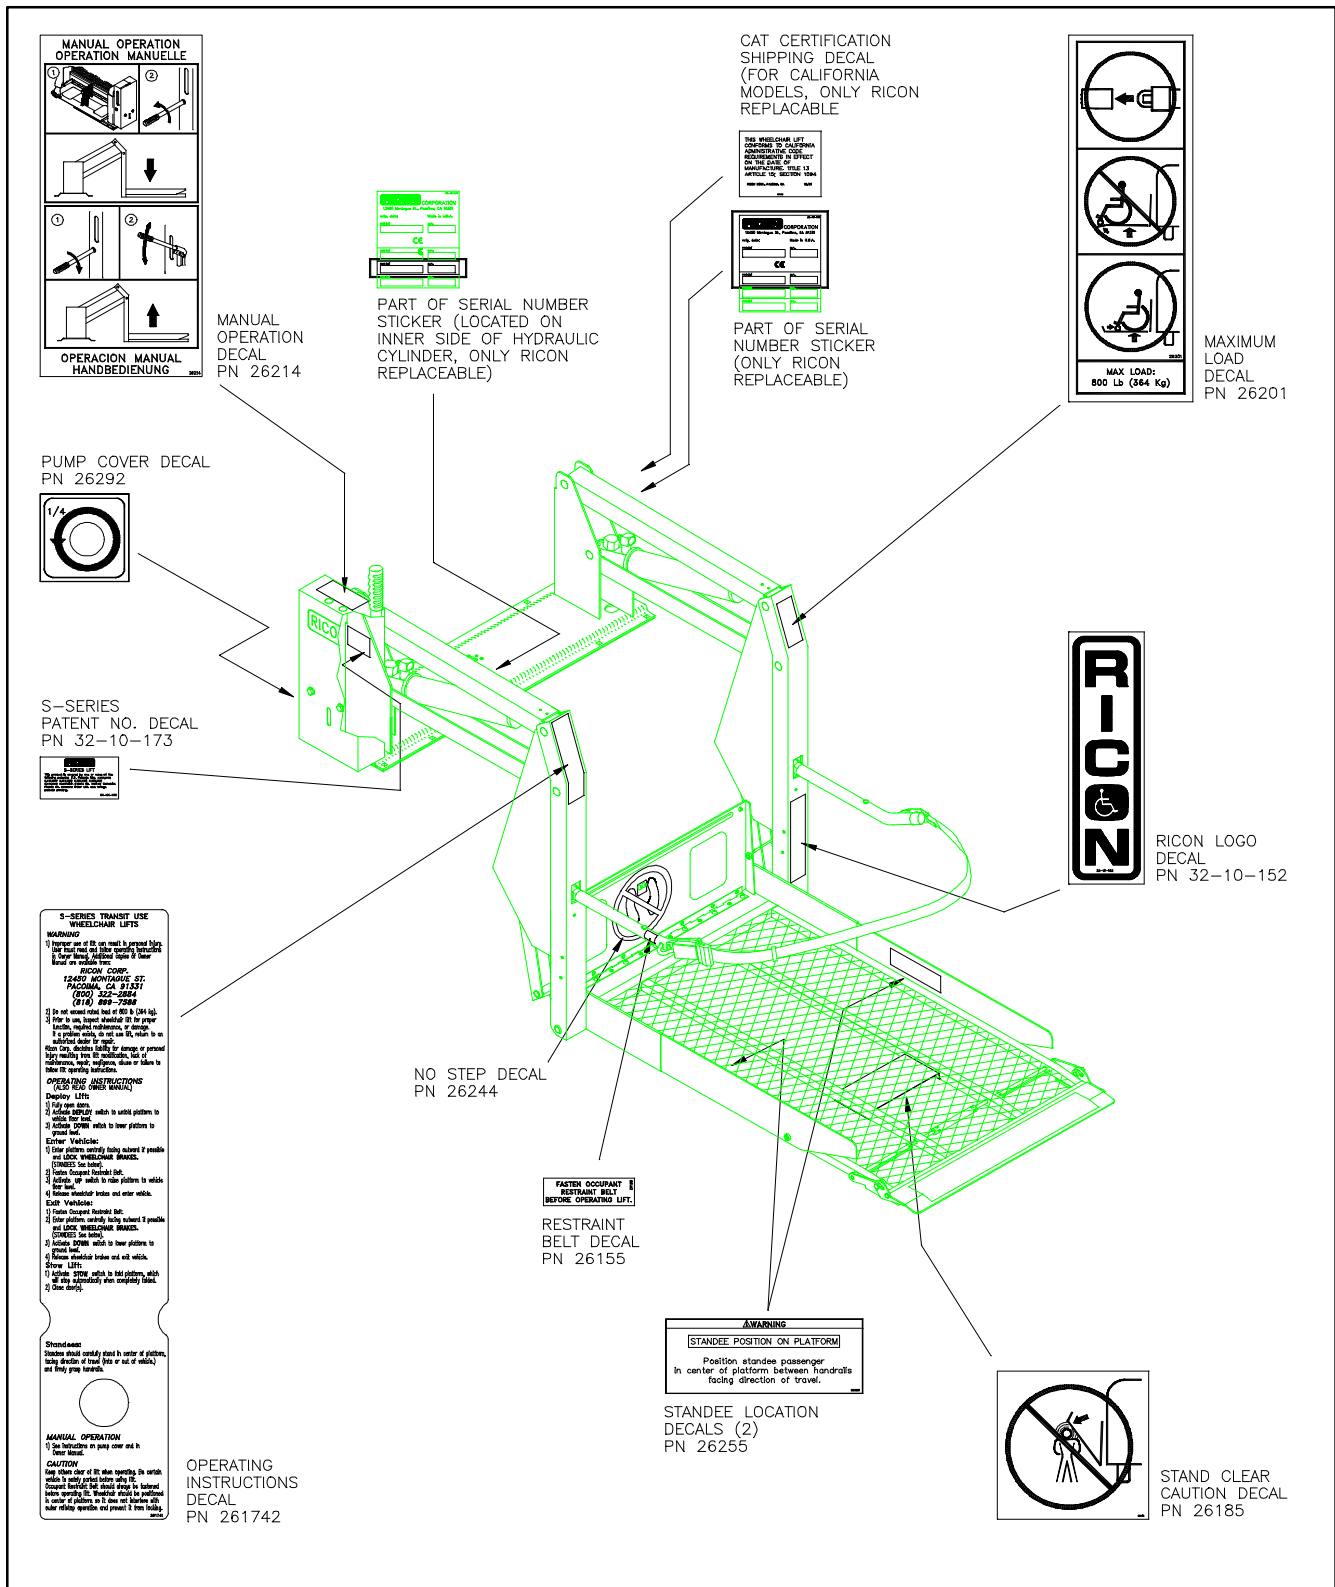

FIGURE 2-23: DECAL LOCATIONS AND PART NUMBERS
- Refer to **Figure 2-23** on next page and be certain that all decals are located as shown and securely affixed.